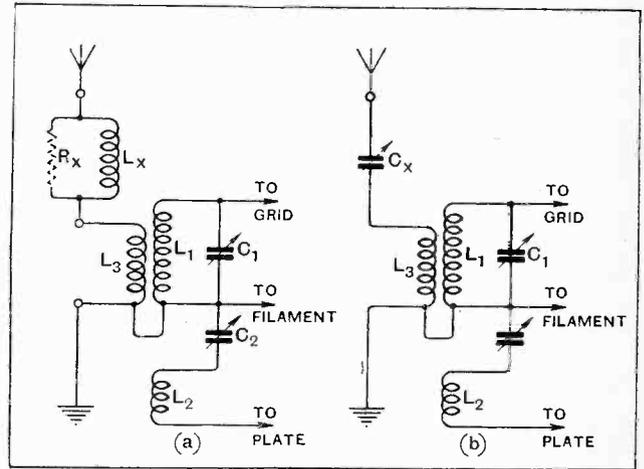

Fig. 4.—(a) Loading inductance  $L_x$  and (b) series capacity  $C_x$  have been added to obtain curves shown in figures 5, 6 and 7.
below the waveband covered by the tuned grid circuit, or any resonance must be very highly damped. The aerial system consists of aerial and earth and the aerial coupling coil. If the aerial is to resonate at a wavelength above the maximum of the grid circuit, then its inductance or its capacity, or both, must be increased. The total inductance in the aerial circuit is quite small, so that it will probably be more convenient to increase the inductance by inserting a coil  $L_x$  in the aerial lead as shown in Fig. 4 (a) rather than to increase the capacity by shunting  $L_3$  with a very large condenser.
While curve (2) for the aerial alone showed a resonance about  $40^\circ$  of the tuning condenser, curve (3) shows a very decided resonance at about  $140^\circ$ , while curve (5) shows a resonance just above  $180^\circ$ , but not sufficiently above to prevent interference with the reaction control. It would appear that about 500 microhenries would be sufficient. When a large inductance is used, sufficient to give resonance well off the scale, as is shown in Fig. 4, then the reaction control becomes uniform again.
Unfortunately, however, as might be expected, the addition of large loading inductances in the aerial circuit will cut down the signal strength quite considerably. This may be minimised by connecting a resistance across the loading inductance, as shown in Fig. 4 (a) by  $R_x$ , and a comparatively small coil, such as is used in curve (5) may be used with a damping resistance which will tend to make the reaction control more uniform. However, as will be seen later, this is not the best connection to use on wavelengths above 200 metres, but the curves shown are interesting from the point of view of *short-wave* receiver design, where the aerial naturally resonates (if of normal size) above the waveband it is desired to receive.
The capacity may be reduced by including a series condenser in the aerial lead,  $C_x$ , as shown in Fig. 4 (b).